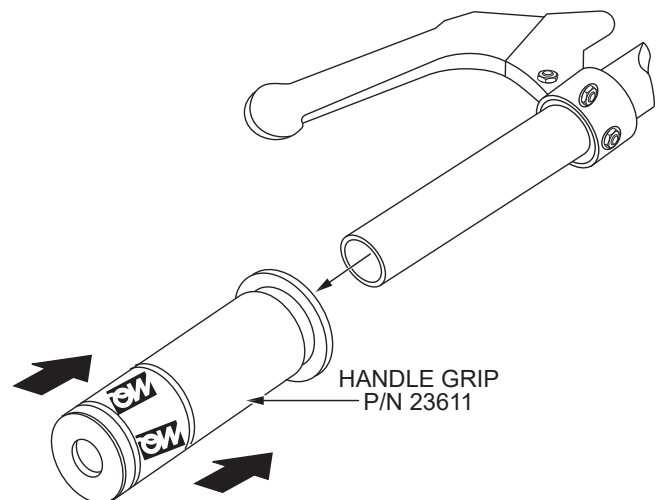

Figure 5. Handle Grip Installation
4. Install the new handle grip (P/N 23611) onto the handle. See Figure 5.